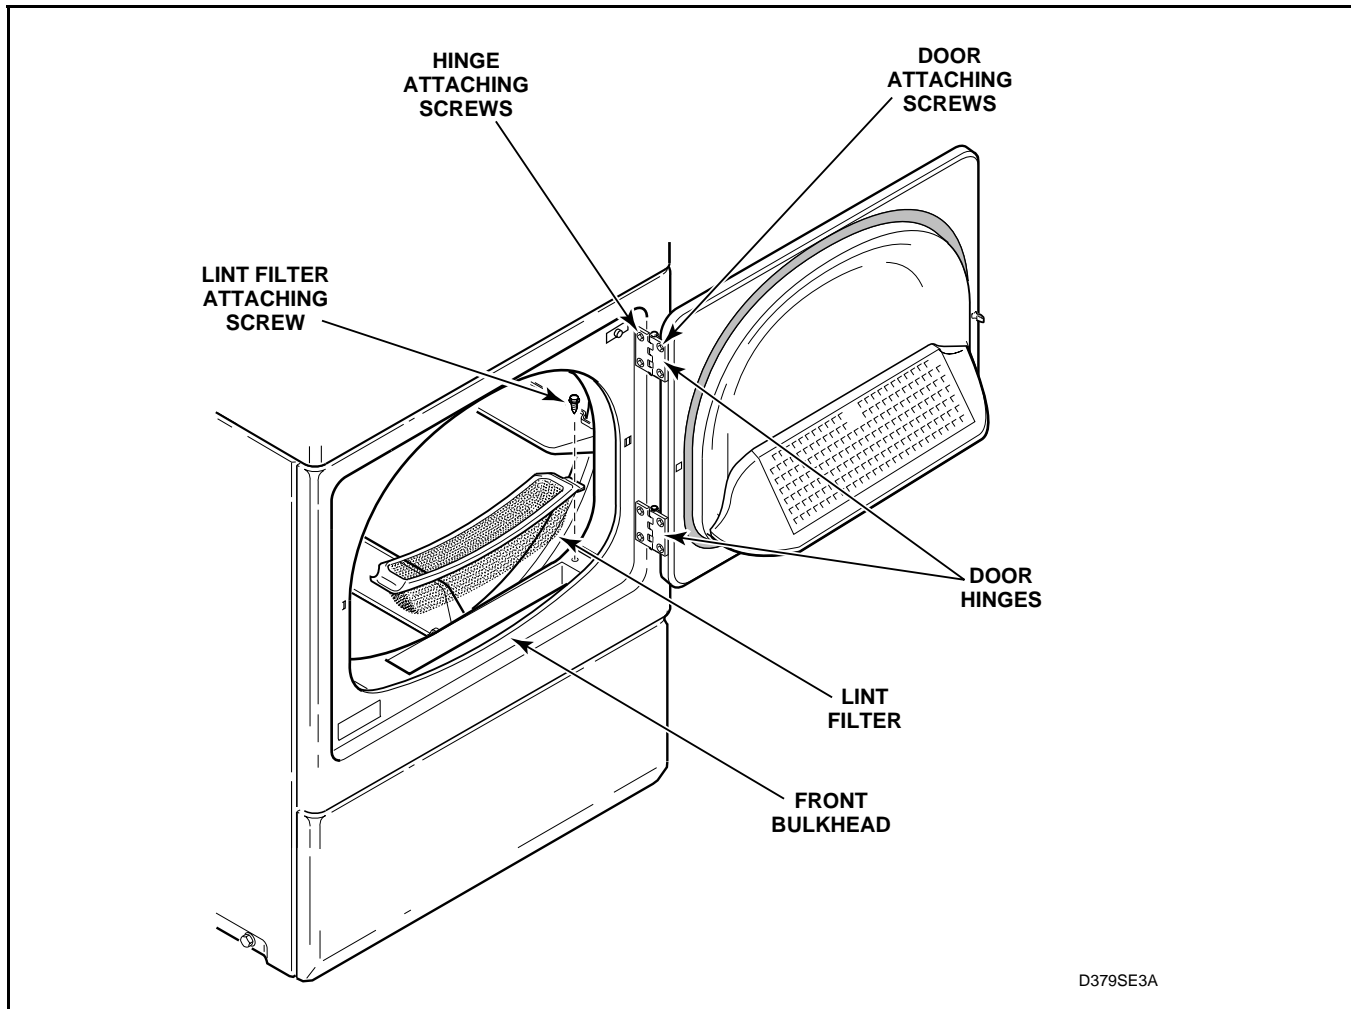

Figure 36
- Remove four screws holding door assembly to hinges. See *Figure 36*.
(Figure 36)
- Remove screws holding loading door to hinges. See Figure 36.